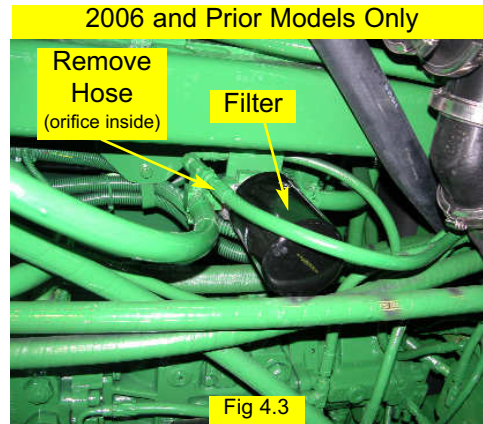
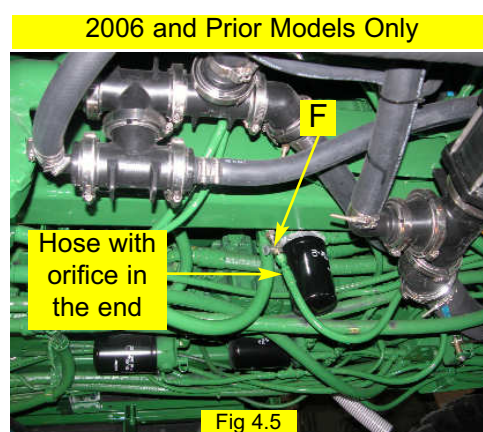

Fig 4.3
Fig 4.5
Locate the hydraulic filter under the center of the sprayer, near the transmissions. (Figure 4.3 and 4.4) Remove the indicated hose from the filter inlet and install the provided run-tee (F). (Figure 4.5 and 4.6) Reattach the hose to the end of the run-tee. This run-tee will be used as the tank return for the hydraulic control block.
*Note: On 2006 and prior models there is a loose orifice disk in the end of the hose, indicated in figure 4.3. This orifice disk must remain in the end of the hose when installed to the end of the run tee (F).*